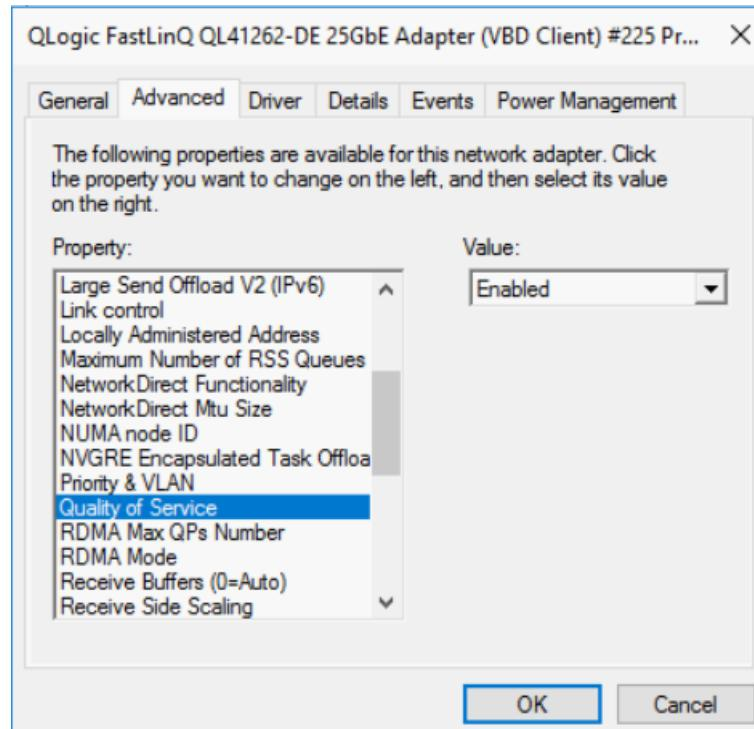

Figure 13-11. Advanced Properties: Enabling QoS
- a. On the adapter's Advanced Properties page (Figure 13-11) under **Property**, select **Quality of Service**, and then set the value to **Enabled**.